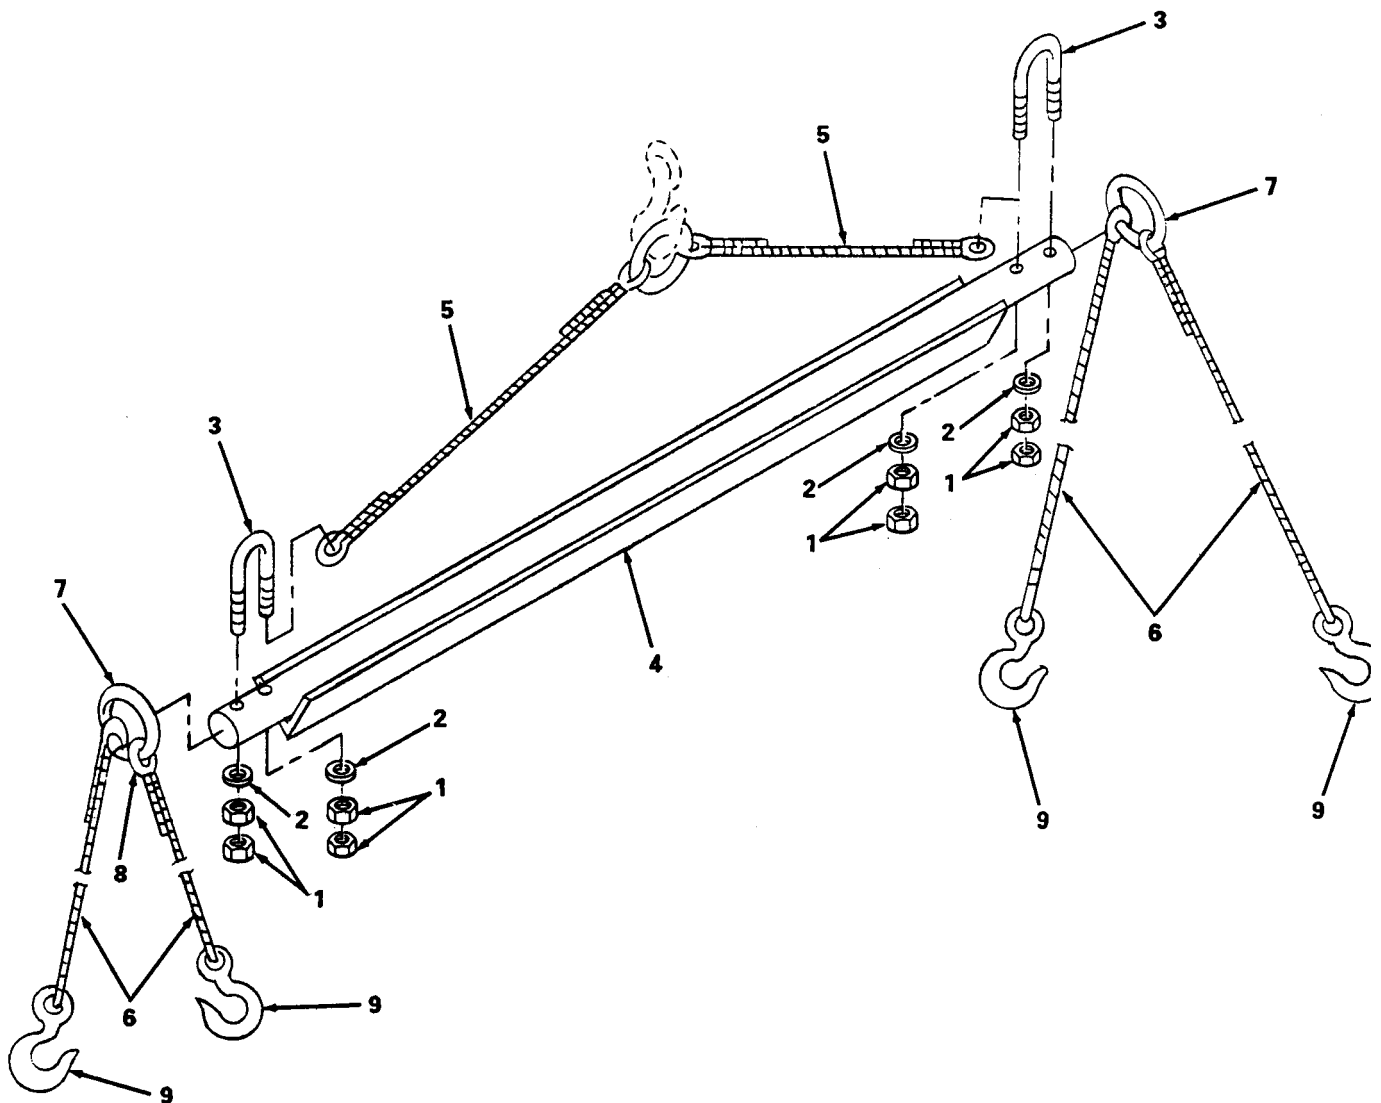

Figure 6-1. Sling Assembly, Repair.
a. Replace. (figure 6-1)
- (1) Remove eight U-bolt nuts (1) and four washers (2).
- (2) Remove two U-bolts (3) from spreader bar (4) and release upper leg assembly (5).
- (3) Slide lower leg assemblies (6) and support rings (7) from spreader bar (4).